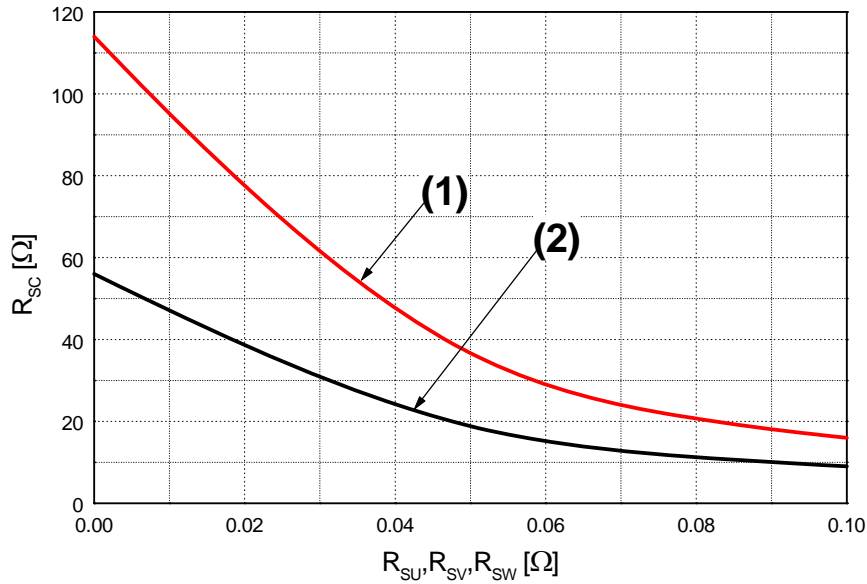

Figure 6. R_{sc} Variation by Change of Shunt Resistors (R_{SU} , R_{SV} , R_{SW}) for Short-Circuit Protection
5. Short-circuit protection is functioning only at the low-sides. It would be recommended that the value of the external sensing resistor (R_{SC}) should be selected around 56 Ω in order to make the SC trip-level of about 22.5A at the shunt resistors (R_{SU}, R_{SV}, R_{SW}) of 0 Ω. For the detailed information about the relationship between the external sensing resistor (R_{SC}) and the shunt resistors (R_{SU}, R_{SV}, R_{SW}), please see Figure 6.